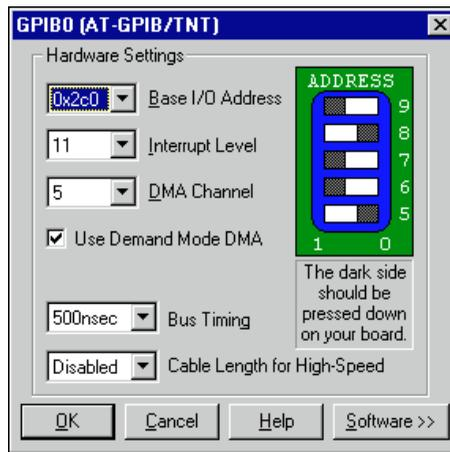

Figure 3-2. PC/104-GPIB Configuration Dialog Box
- a. Click on the **Configure** button to bring up the **PC/104-GPIB Configuration** dialog box, as shown in Figure 3-2.